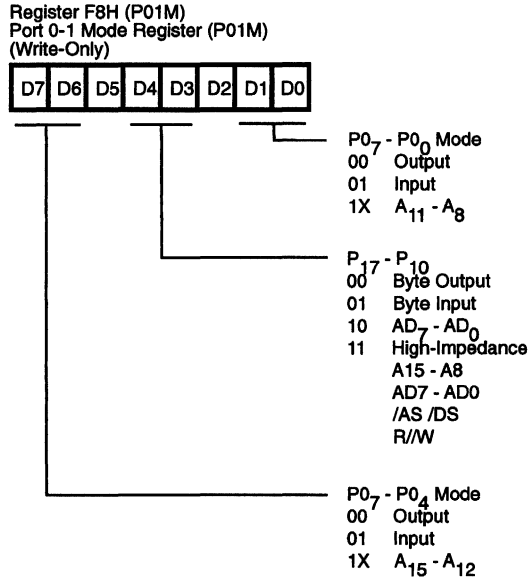

Figure 10-2. External Address Configuration
- 10.2.5 P07 - P01 High Address Lines** A15 -A8 (Outputs can be CMOS- or TTL- compatible. Please refer to product specifications for actual type). A15-A8 provide the High Address lines for the memory interface. Port 0 - 1 mode register must have bits D7 = 1 and D1 = 1 to configure Port 0 as A15 - A8 (Figure 10-2).
- 10.2.6 P17 - P10 Address/Data Lines** AD7 - AD0 (inputs/ outputs, TTL-compatible). AD7-AD0 is a multiplexed Address/Data memory interface. The lower eight Address lines (A7-A0) are multiplexed with Data lines (D7-D0). Port 0 - 1 mode register must have bits D4 = 1 and D3 = 0 to configure Port 1 as AD7 - AD0 (Figure 10-2).